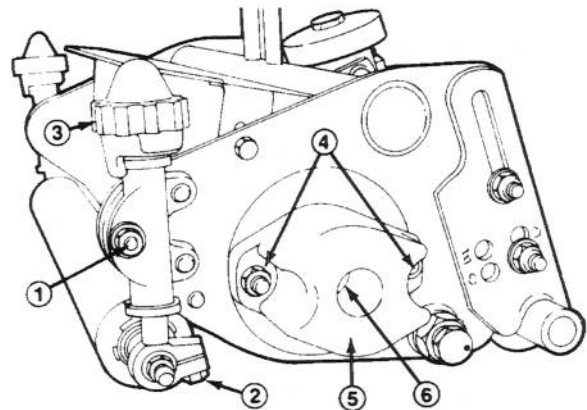

Figure 17
1. Loosen the locknuts securing the height-of-cut adjusting rods at both ends of the cutting unit and the roller shaft clamp bolts (Fig. 17).
2. Turn the height-of-cut adjustment knobs until they are disconnected from the height-of-cut adjusting rods (Fig. 17). The knobs are captivated on the upper washer face of height-of-cut clamp.
2. The reel bearing drag should be from 5 to 9 inch pounds. This can be measured with a torque wrench (Fig. 17).